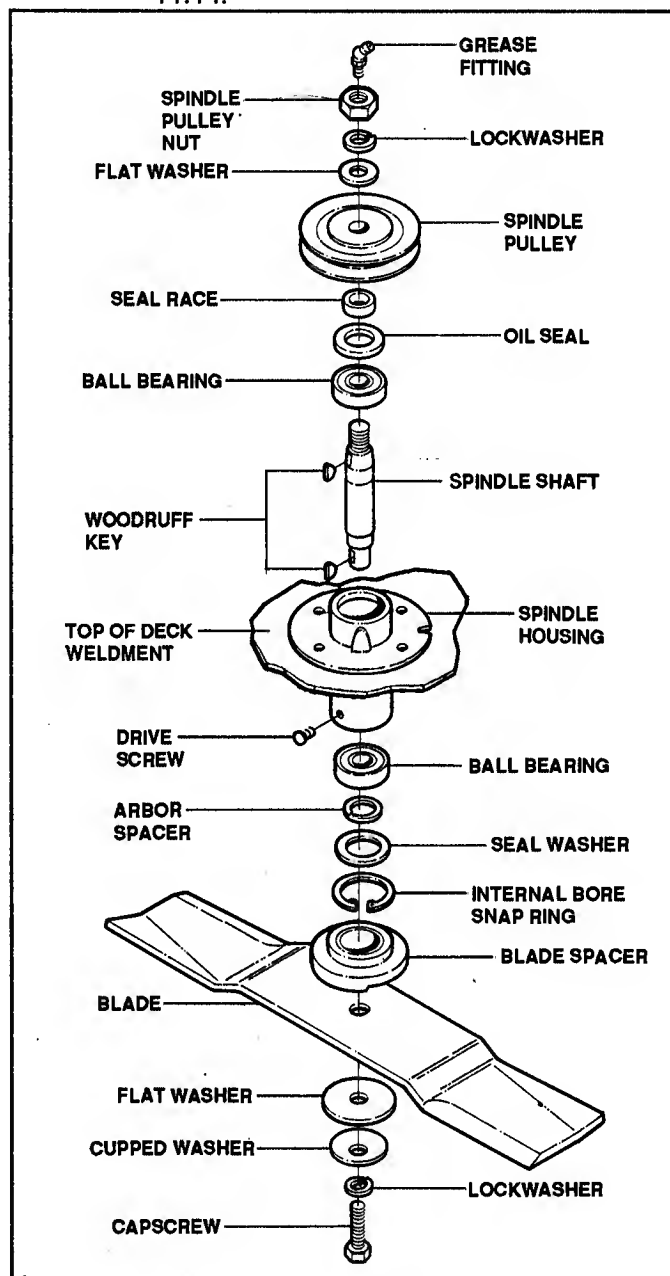

FIGURE 11.14
- Remove the internal bore snap ring from the bottom of the spindle housing. See Figure 11.14.
3. Install blade as shown in Figure 11.14. Finger tighten capscrew.